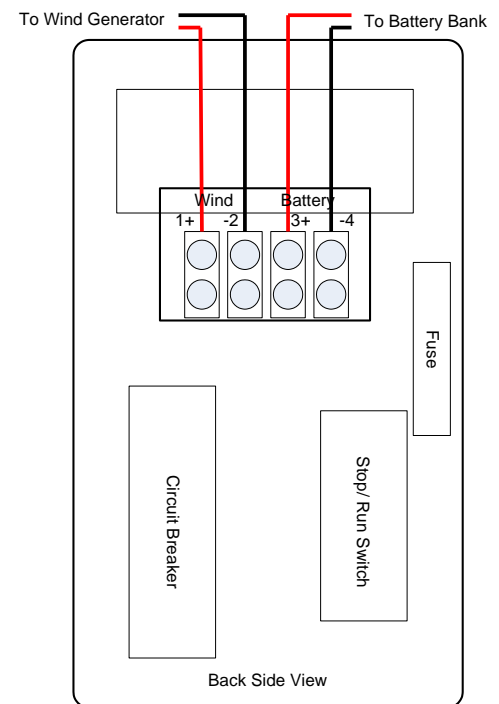

Figure 2
**Wind Generator Connection:** Mechanically tie off the wind turbine blade so that it cannot operate while making your connections. Connect the wires of the 12-48V wind turbine feed wires to the terminals marked wind. Negative to **-2** and Positive to **1+** of the Control Panel using the appropriate wire size (see Figure 2). The green grounding wire of the wind generator is connected to the grounding system.
**1) Battery Connections:** Be sure battery feed wires are not connected to the battery at this time. Connect the battery feed wires to terminals marked Battery with Negative to **-4** and Positive to **3+** of the control panel using the appropriate wire size (see Figure 2) .